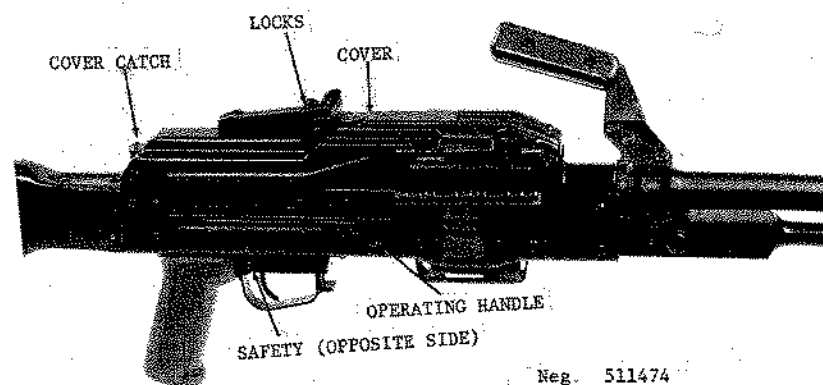
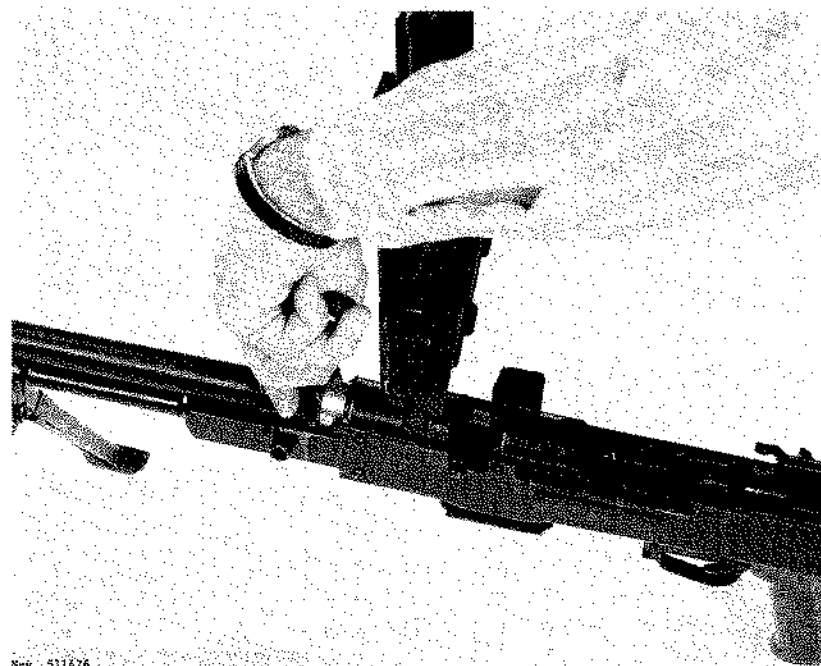

Figure 175. Soviet PKB receiver detail.
Figure 177. PK barrel change.
b. Load the PK/PKS ammunition belt as described in paragraph 175b. Press the cover catch forward (fig 175) and lift the cover. Place the belt on the feedway, insuring that the rim of the first cartridge is in the cartridge gripper (located at the center
rear of the feedway). Close the feed cover. Rotate the safety forward (figs 175 and 176). Pull the operating handle fully rearward, then thrust it fully forward.
c. Press the locks in on the rear sight slide (fig 175) and move the slide rearward until the edge of the slide aligns with the figures that correspond to the range in hundreds of meters. To fire the weapon, swing the safety forward, aim, using a normal sight picture, and press the trigger. The PK will fire as long as the trigger is held and ammunition is fed. The PKT is normally fired by an electric push button in the tank. In emergencies, press the safety catch forward, then press the butterfly trigger (fig 176) down. The bolt will remain open between bursts and will close on an empty chamber when the last round of the belt if fired.
e. Continuous firing will cause the barrel to overheat. If this occurs, unload (d above), press the cover catch (fig 175) and open the feed cover; then swing the feedway up (it pivots on the same pin as the cover). Slide the barrel lock out to the side. Pull the barrel carrying handle away from the barrel; this will lever a hot barrel out of its seat in the receiver (fig 177), then pull the barrel forward, completely off the gun. Insert a new, cool barrel, seat it fully, press the barrel lock fully in, and close the feedtray. Reload (b above) and resume fire.